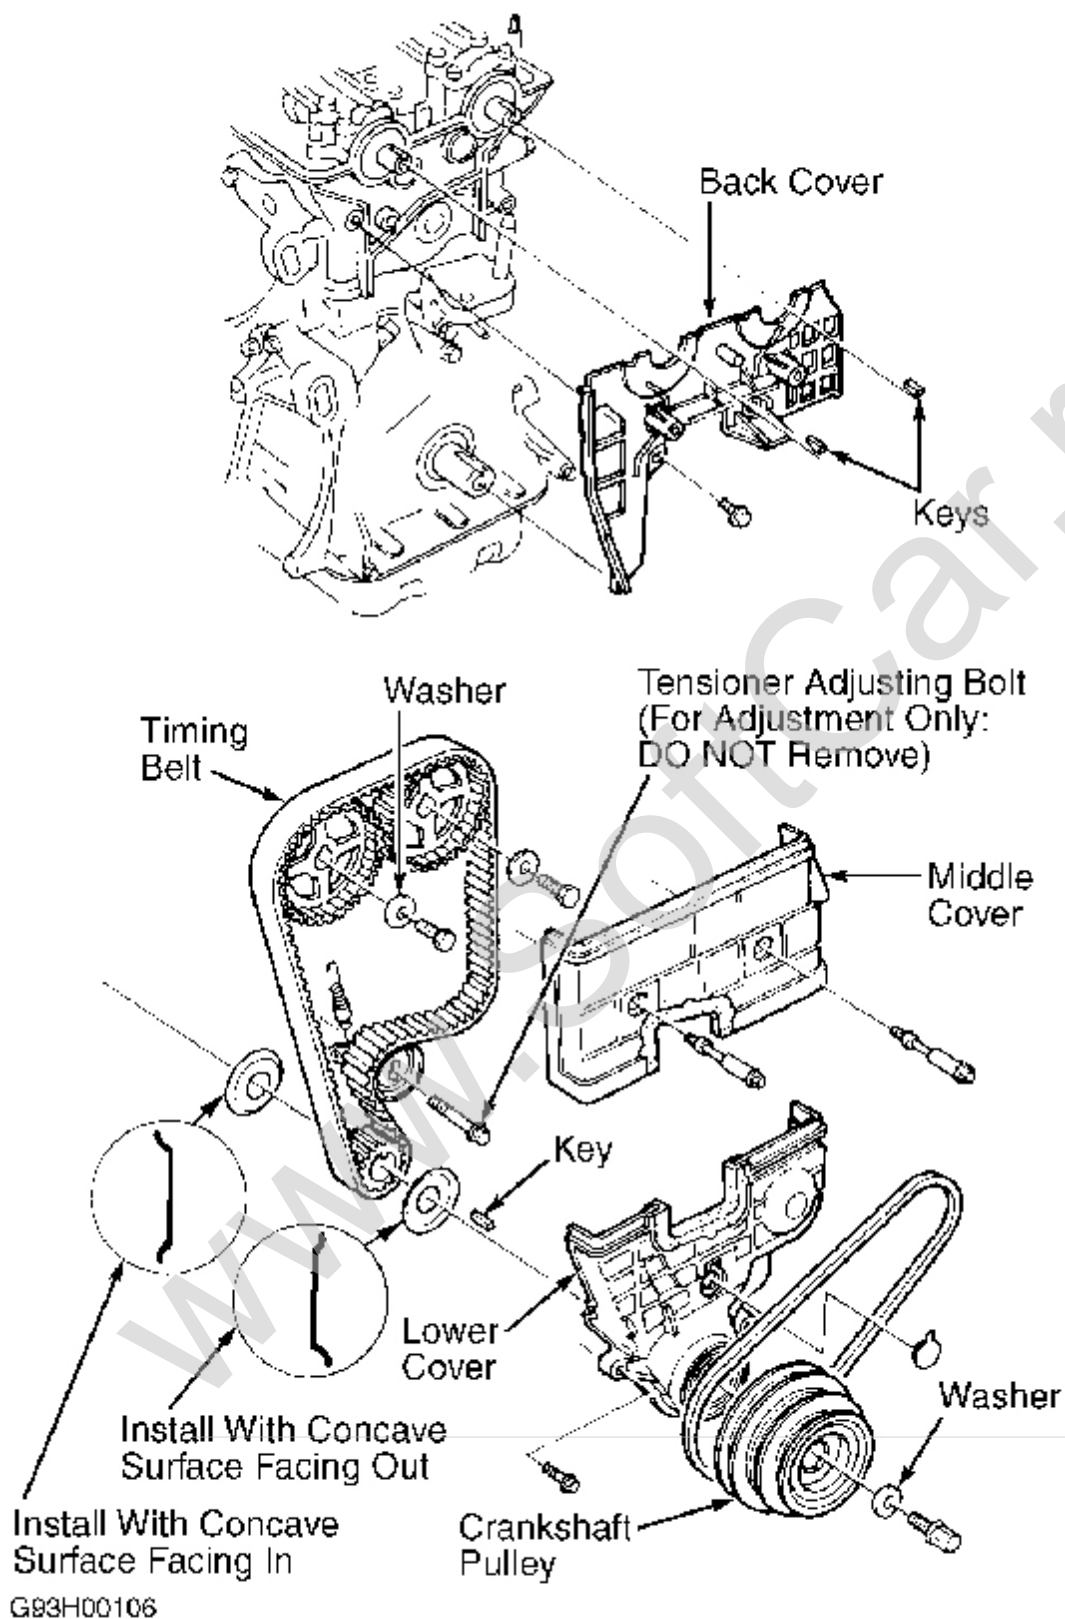

Fig. 9: Exploded View Of Timing Belt Components
2. Remove valve cover. Remove crankshaft pulley bolt and pulley. Remove middle and lower timing belt covers. See **Fig. 9** . Loosen timing belt adjuster bolt 180 degrees. Push on timing belt tensioner to release tension from belt, then retighten adjuster bolt. Remove timing belt. See **Fig. 9** .
1. Disconnect negative battery cable. Remove valve cover and middle timing belt cover. See **Fig. 9** . Rotate crankshaft counterclockwise to bring No. 1 piston to TDC of its compression stroke, with UP marks on camshaft sprockets pointing up. See **Fig. 6** .
Remove timing belt. See **TIMING BELT** . Remove camshaft sprockets and timing belt back cover. See **Fig. 9** . See **CAMSHAFTS** . Remove 5 retaining bolts, water pump, and "O" ring.
1. Drain engine oil. Rotate crankshaft counterclockwise to align crankshaft pulley timing mark with pointer on lower timing belt cover. Remove valve cover and middle timing belt cover. See **Fig. 9** . Remove accessory drive belts.